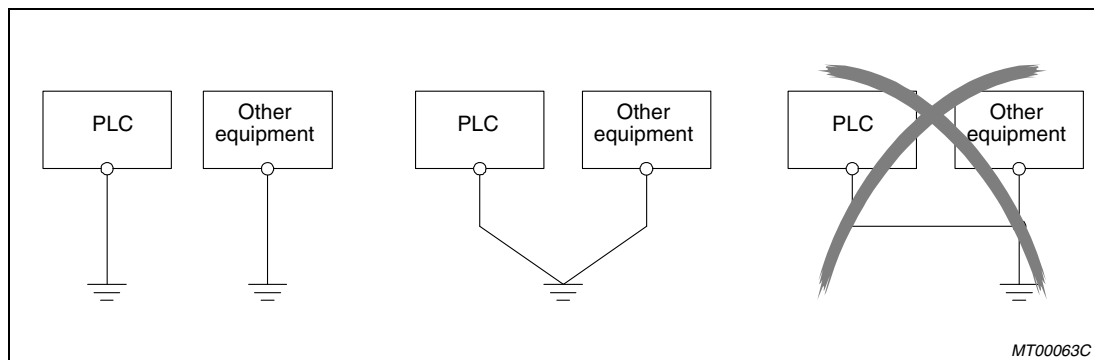

Fig. 9-21: Grounding procedures
- Use a dedicated grounding wire as far as possible (see fig. 9-21, left example). Grounding is done according class 3 (grounding resistance 100 Ω or less).
- When a dedicated grounding cannot be provided, use common grounding as shown in the center of Fig. 9-21. Do not use the grounding as shown in the right example.